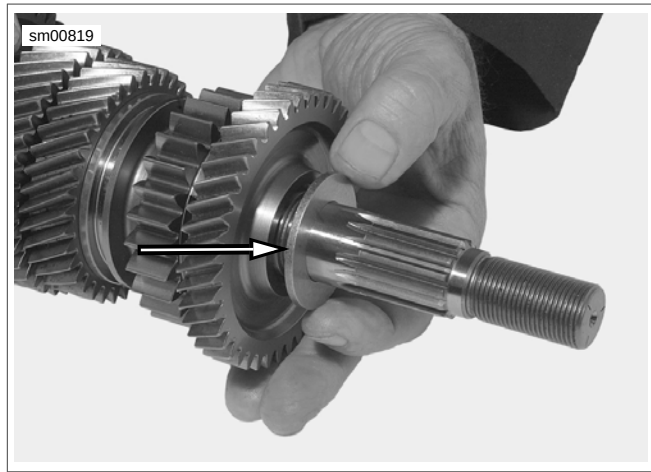

Figure 6-116. Hardened Washer
3. See Figure 6-116. Install hardened washer.